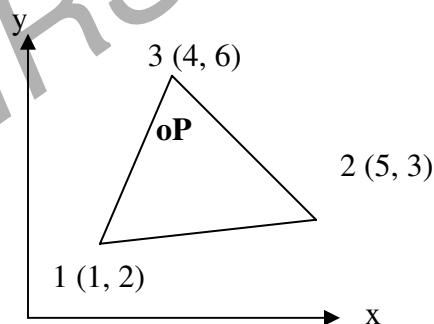

Figure: 2
- The nodal Co-ordinates of the triangular element are shown in Figure: 2. At the interior point P, the X coordinate is 3.3 and $N_1 = 0.3$. Determine N_2 , N_3 and the Y coordinate at point 'P'. [16]